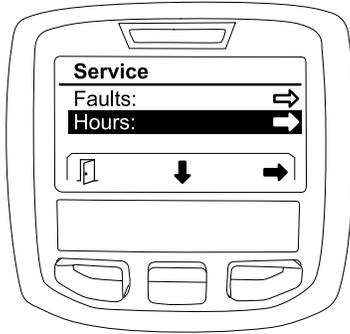

Figure 28
1. Use the middle selection button to navigate to the HOURS option (Figure 28).